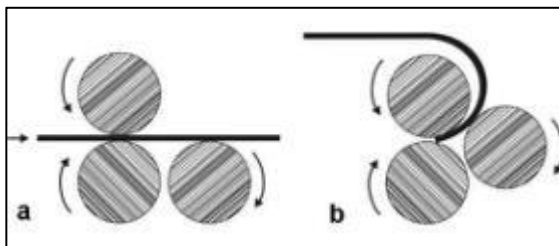

Figure 14
3. Operate handle; when the material reaches the point where the radius is to begin (a, Figure 14), stop the machine and raise the idle roll an equal amount on each end to achieve desired bend.
4. Restart rolls and continue until bend is completed (b, Figure 14). Support workpiece as it exits machine.